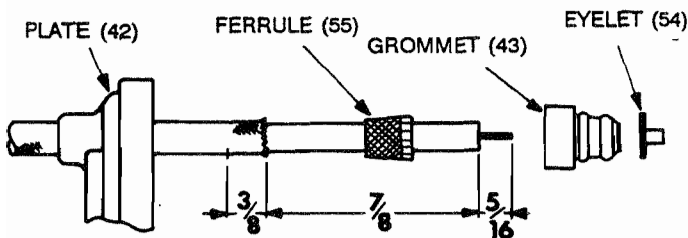
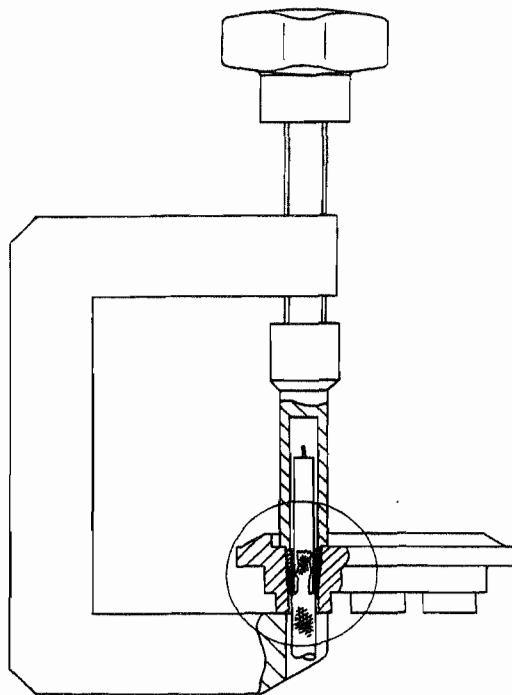

Figure 903
Figure 904
- E. Cut and remove 5/16 inch insulation from conductor to facilitate crimping of eyelet. See Figure 903.
- F. Insert replacement lead through plate (42)
- G. Place ferrule (55) over insulation and slide tapered end under braid. Cover approximately 3/4 of ferrule taper.
- H. Pull lead and ferrule back into plate (42). Braid should be flush with plate (42).
- I. Fully seat ferrule, (55), using 11-10386 ferrule seating tool, as shown in Figure 904. Ferrule (55) must seat flush to 0.031 in. below the adjacent surface of plate (42).
- K. Install grommet (43) over insulation.